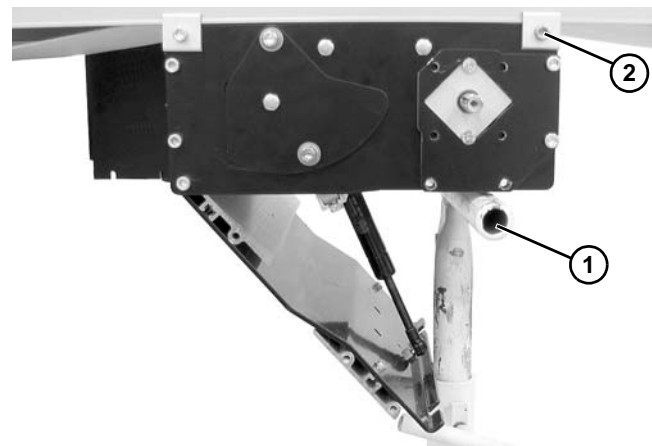

Figure 41
1. Place temporary support (Figure 41, item 1) underneath the drive module.
2. Loosen clamp screws (Figure 41, item 2) on each corner of the module. Remove the module.